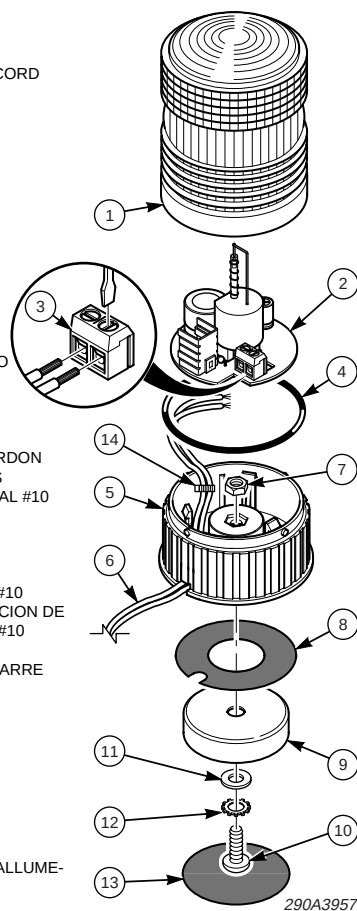

Figure 1. /Figura 1. /Figure 1.
C. INSTALLATION (Voir figure 1).